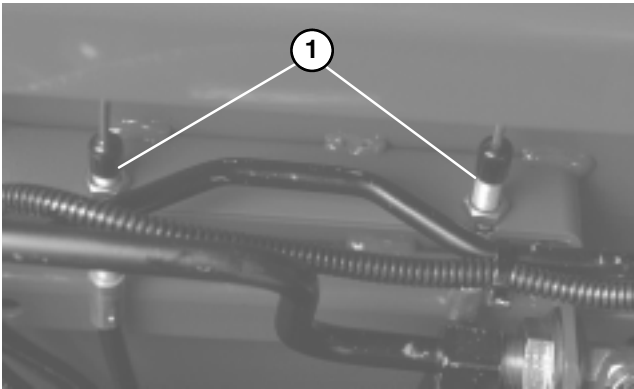

Figure 61
2. To reduce free travel of brake pedals, tighten the brakes by loosening the front nut on the threaded end of the brake cable (Fig. 61). Then tighten rear nut to move cable backward until brake pedals have 1/2 to 1 inch of free travel. Tighten front nuts after brakes are adjusted correctly.